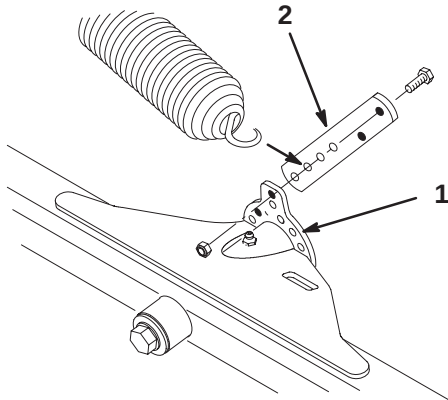

Figure 15
1. Mount a spring anchor to the rear inboard side of each front cutting unit lift tab with 2 capscrews (1/4 x 3/4 in.) and locknuts, as shown in Figure 15.
2. On the front cutting units, hook the spring into the second hole from the bottom (#3 position) in the spring anchor (Fig. 15).